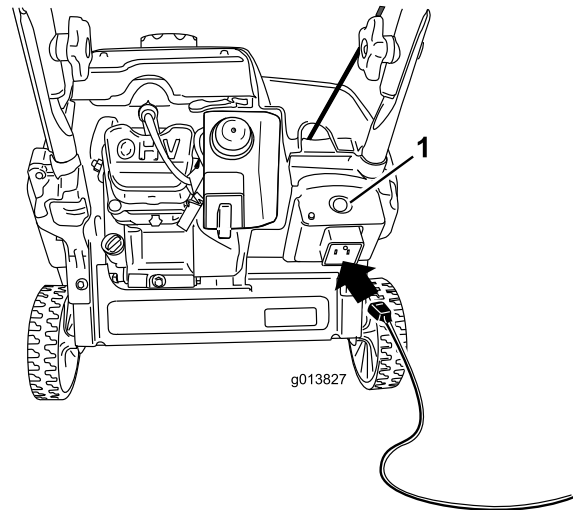
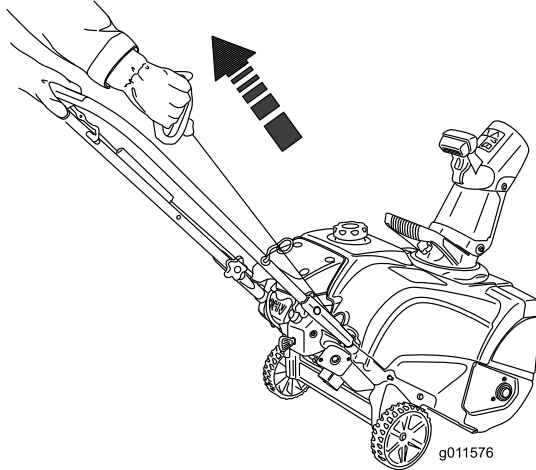

Figure 18
Figure 19
4. Connect an extension cord to a power source and the machine, and push the electric-start button (model 38282 only) (Figure 18), or pull the recoil start handle (Figure 19).